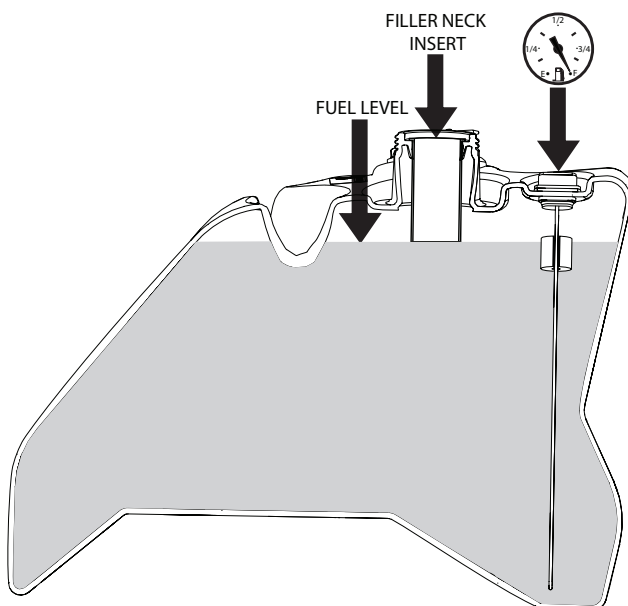

Figure 7-5. C.A.R.B. / EPA Phase 3 Fuel Level
Fill the fuel tank to the bottom of the filler neck insert (approximately 5 gallons for 32" models, 7 gallons for 36" models or 8 gallons for all other models indicating Full (F) on the fuel gauge) at the beginning of each operating day. See Figure 7-5. Do not overfill. Use clean, fresh unleaded gasoline with a minimum octane rating of 87 and a maximum of 10% Ethanol.